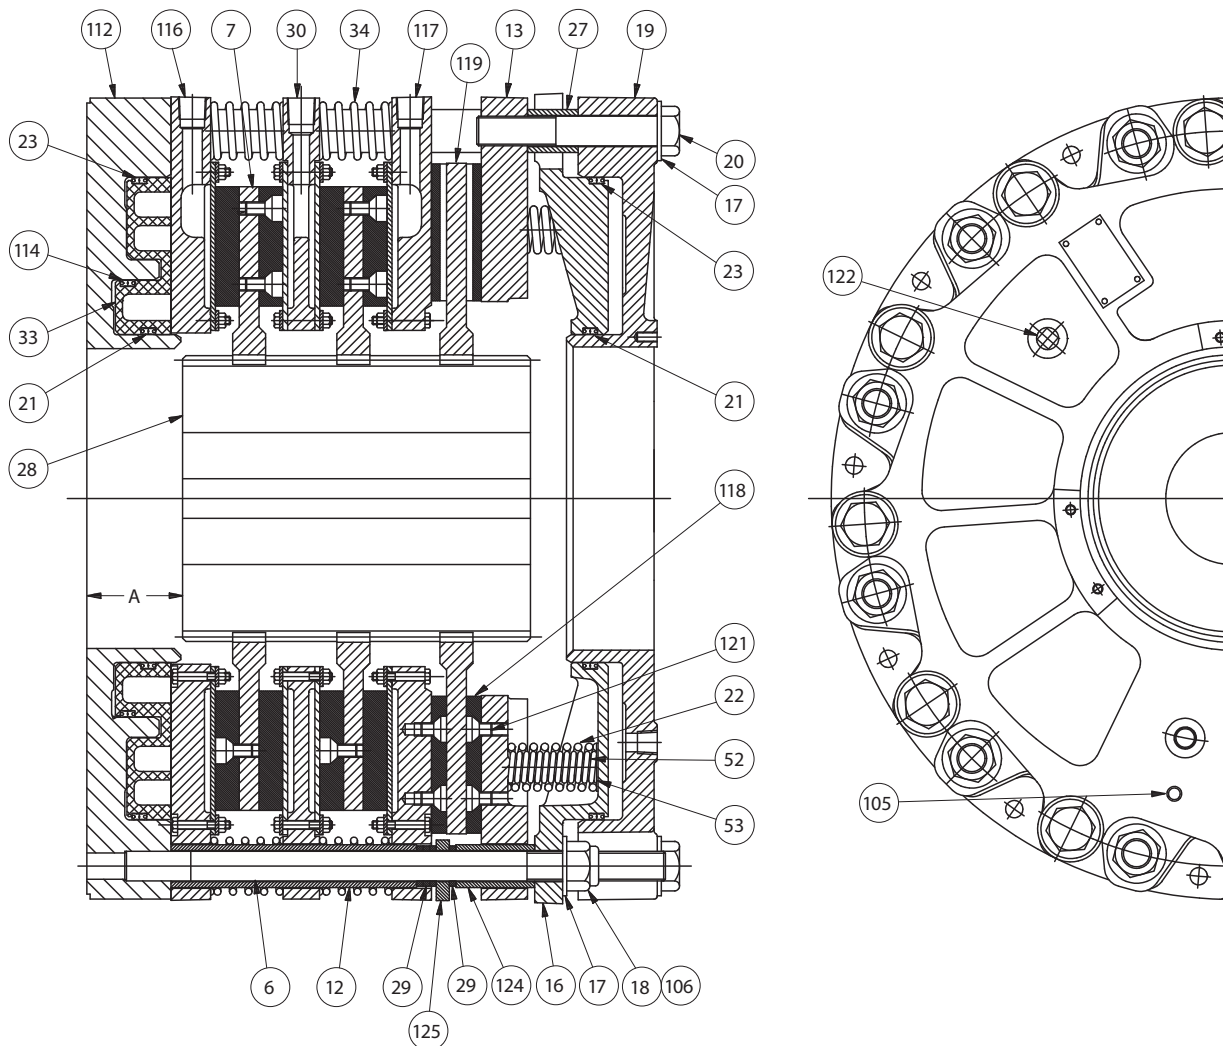

Figure 1
1.1.5 The air applied pistons in the WCSB tensioner / brake assemblies are available in either single or dual piston designs. The WCSB tensioner / brake assemblies dual mounting flange/cylinder (112) and dual piston (33) assembly (112) offers precise tensioning control by dividing the piston / cylinder into inner and outer chambers that are isolated by intermediate seals (114). Also, for light tensioning loads, the inner chamber is used, not the outer chamber. See Figure 1. This provides the ability to improve fine modulation of clamping pressure on the tensioner discs and improved control over our standard single chamber design. For very light tensioning loads, the outer piston can be used solely, with no pressure applied to the inner piston. For the largest tensioning loads, both pistons can be used together. If it is desirable to operate the WCSB tensioner / brake assembly at maximum tensioning load and not utilize the precise tensioning feature, the WCSB tensioner / brake assembly can be ordered without the intermediate piston seal (114).
1.2.1 Referring to Figure 1, the gear (28) is mounted on the shaft which is to be stopped and the tensioner assembly is attached to the machine frame or a reaction bracket.
2.1.4 Refer to the appropriate assembly drawing for the setup dimension between the tensioner mounting surface and the end of the gear (dimension "A" on Figure 1). Gears should be positioned to ensure that when the tensioner is mounted the disc splines will not overhang the end of the gear when components are in both new and worn conditions. The gear is typically bored and keyed for a resulting Class FN2S interference fit for inch shafting and ISO System S7h6 for metric shafting. Contact Airflex Application Engineering for specific recommendations.
2.2.4 Heat the gear uniformly to 250 °F (121 °C) to expand the bore and ease assembly. Press the gear onto the shaft, making sure that the dimension between the gear and the tensioner mounting surface ("A") is maintained. See Figure 1. Allow the gear to cool.